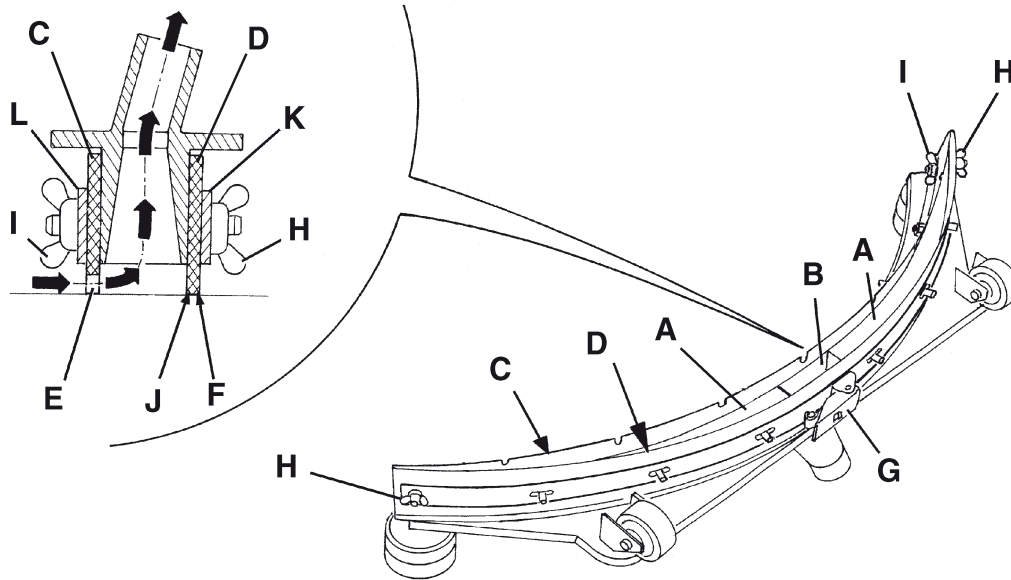
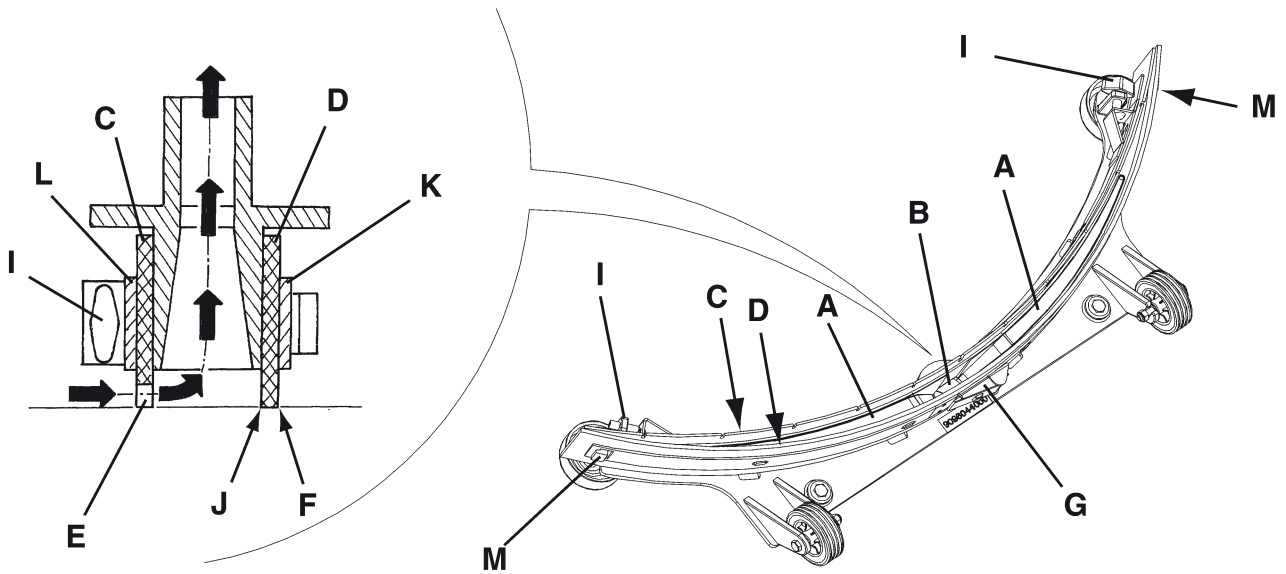

Fig. 1
Fig. 2
2. - (For **BA 451D**, **BA 531D**, **BA 551D**, **BA 551CD**, **BA 611D**) Turn the ignition key (80) to "0".
- (For **BA 451**, **BA 531**, **BA 551**) Turn off the switches (71) and (73).
- (For **CA 451**, **CA 531**, **CA 551**) Disconnect the power supply cable (59) from the electrical mains.
3. Lower the squeegee (25) with the lever (10).
4. Loosen the handwheels (26) and remove the squeegee (25).
5. Disconnect the vacuum hose (15) from the squeegee.
6. Clean the steel squeegee (Fig. 1) or the aluminium squeegee (Fig. 2). Clean the compartments (A, Fig. 1 or 2) and the hole (B) especially. Check the front blade (C) and the rear blade (D) for integrity, cuts and tears; otherwise replace them (see the procedure in the following paragraph).
8. Clean the steel squeegee (Fig. 1) or the aluminium squeegee (Fig. 2), according to the procedure shown in the previous paragraph.
9. Check that the edges (E, Fig. 1 or 2) of the front blade (C) and the edges (F) of the rear blade (D) lay down on the same level, along their length; otherwise adjust their height according to the following procedure:
- Release the tie rod (G, Fig. 1 or 2) and loosen the wing nuts (H, Fig. 1), or disengage the fasteners (M, Fig. 2) and adjust the rear blade (D, Fig. 1 or 2), then tighten the wing nuts, or engage the fasteners, and then engage the tie rod.
- Loosen the handwheels (I) and adjust the front blade (C, Fig. 1 or 2); then tighten the handwheels.
10. Check the front blade (C, Fig. 1 or 2) and rear blade (D) for integrity, cuts and tears; if necessary replace them according to the following procedure. Check that the front corner (J) of the rear blade is not worn; otherwise, overturn the blade to replace the worn corner with an integral one. If the other corners are worn too, replace the blade according to the following procedure:
- Release the tie rod (G), remove the wing nuts (H) or disengage the fasteners (M), remove the retaining strip (K), then replace/overturn the rear blade (D). Then install the blade in the reverse order of removal.
- Unscrew the handwheels (I) and remove the retaining strip (L), then replace the front blade (C). Install the blade in the reverse order of removal.